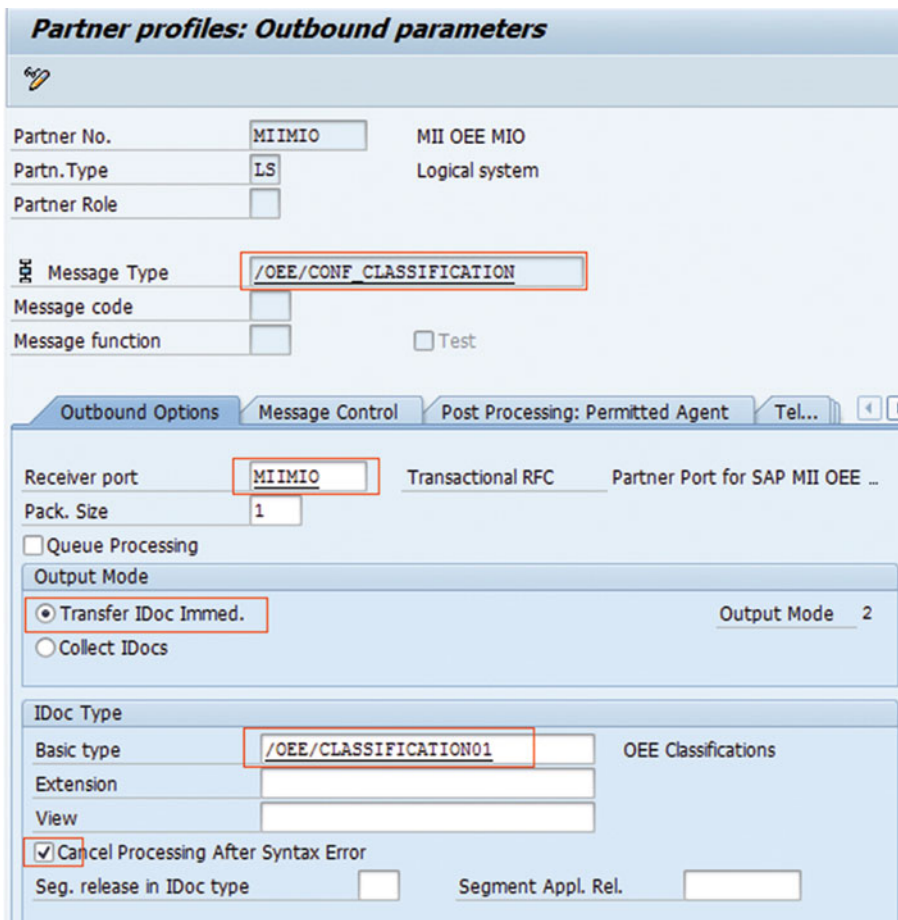

Figure 3-67. Create partner profile port: outbound parameters
- On the Partner profiles: Outbound parameters screen, enter the following data for each message type (refer to Figure 3-67).